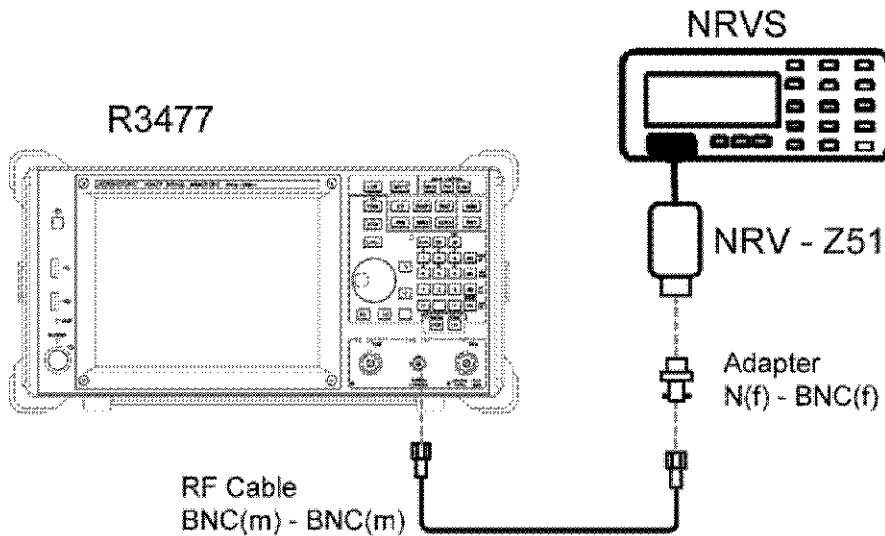

Figure 2-2 Calibration Signal Output Accuracy Test Diagram
1. Connect the instruments as shown in Figure 2-2.
6. Connect the power sensor as shown in the Figure 2-2.